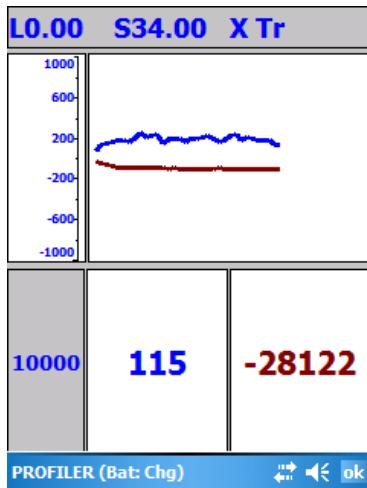
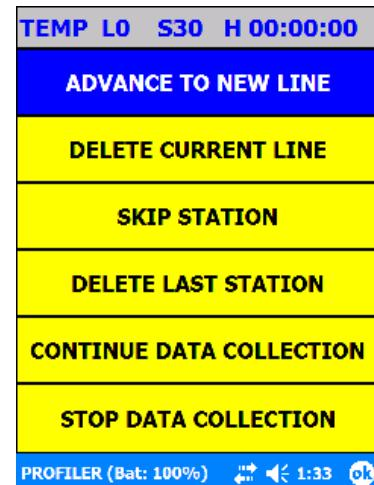

Figure 60: Line Graph with Alphanumeric data.
Figure 63: Run-time menu.
- When data collection is first initiated, the data display field will remain blank until the user presses the **Enter** button on the PDA keypad, or the **Start** button on the key fob. The system will now begin data collection. This pause before the start of data collection only occurs on the first line of a survey. Once the first line has been collected, data collection will begin immediately after the user restarts data acquisition with the Continue Data Collection command in the Run Time menu (Figure 63). Figure 60 illustrates the Data Collection Data display. In this case, the user has selected a Line Graph display along with an alphanumeric data display.
In order to skip a station due to the presence of a surface obstacle, or to skip a transect due to the presence of a large surface feature, the user should select **OK** from the Data display or Positioning display, or press **OK** on the PDA key pad (or depress the RF Start/Stop key fob key twice). Data acquisition will be paused, and the Run Time menu will be displayed (Figure 63).